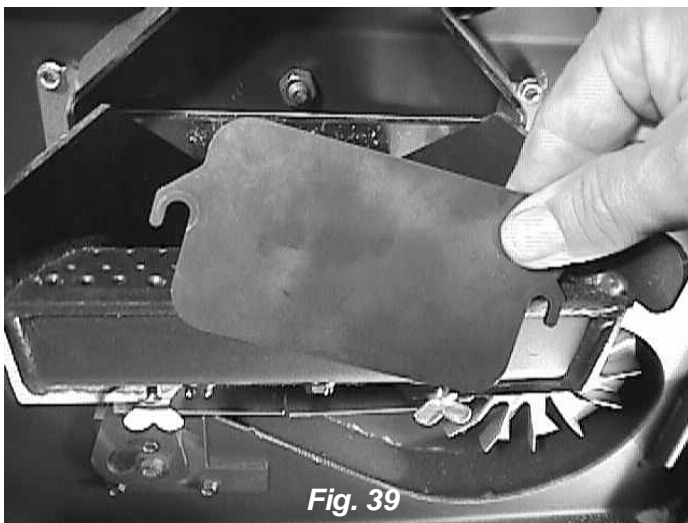

Fig. 39
3. Lift off the clean-out cover (Fig.39) to open the bottom clean-out chamber. (Fig.40)